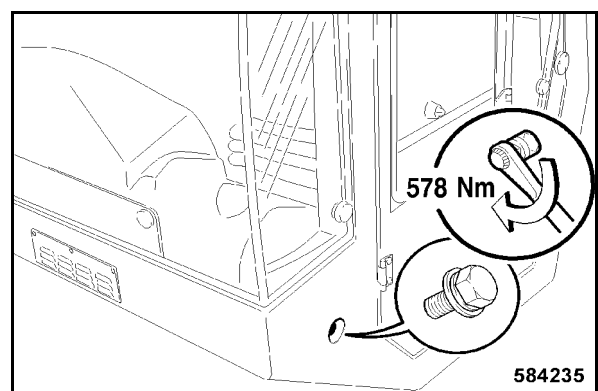

Fig. 216
- Tighten the front lateral fastening screw on the left hand side with 578 Nm (Fig. 216).